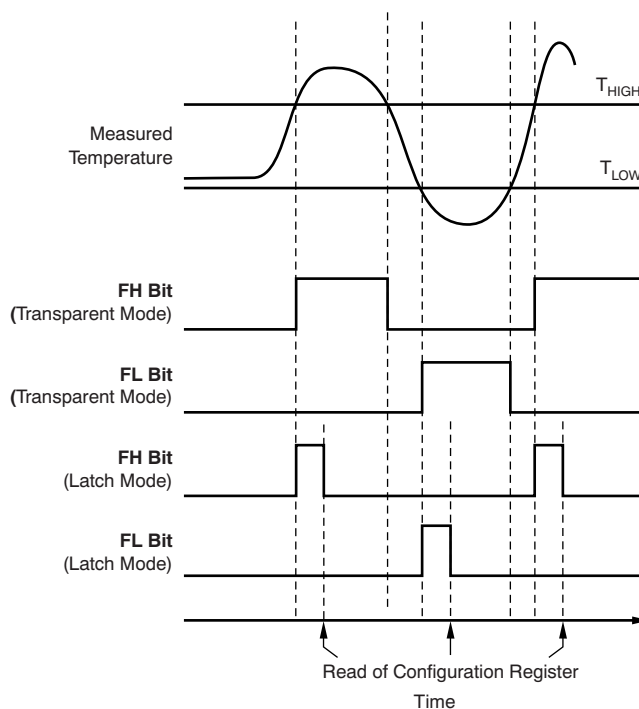

Figure 12. Temperature Flag Functional Diagram
The TMP144 contains a watchdog function that monitors the device temperature and compares the result to the values stored in the temperature limit registers (T_{HIGH} and T_{LOW}) to determine if the device temperature is within these set limits. If the temperature of the TMP144 becomes greater than the value in the T_{HIGH} register, then the flag-high bit (FH) in the Configuration Register is set to 1. If the temperature falls below value in the T_{LOW} register, then the flag-low bit (FL) is set to 1. If both flag bits remain 0, then the temperature is within the temperature window set by the temperature limit registers as shown in Figure 12.
The T_{HIGH} and T_{LOW} registers are used to store the temperature limit thresholds for the TMP144 watchdog function. At the end of each temperature measurement, the TMP144 compares the temperature results to each of these limits. If the temperature result is greater than the T_{HIGH} limit, then the FH bit in the Configuration Register is set to 1. If the temperature result is less than the T_{LOW} limit, then the FL bit in the Configuration Register is set to 1. See Figure 12.